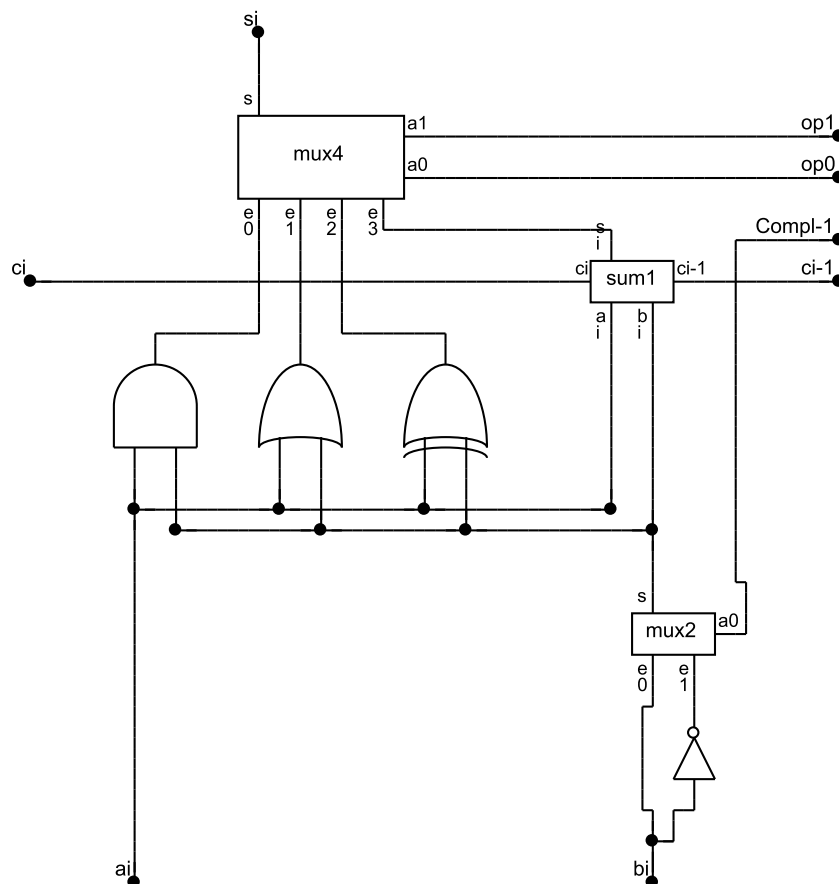

Figure 2.1: 1-bit ALU internal scheme
- ❑ Create the circuit of the 1-bit ALU. You can use the figure 2.1 as a guide. Save the project.